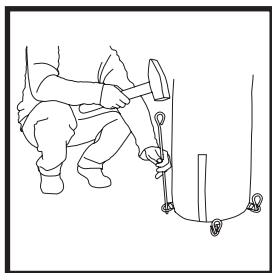

Fig. 2
4. Anchor first leg of arc to the ground by inserting spike into the rings at the base (Fig. 2).